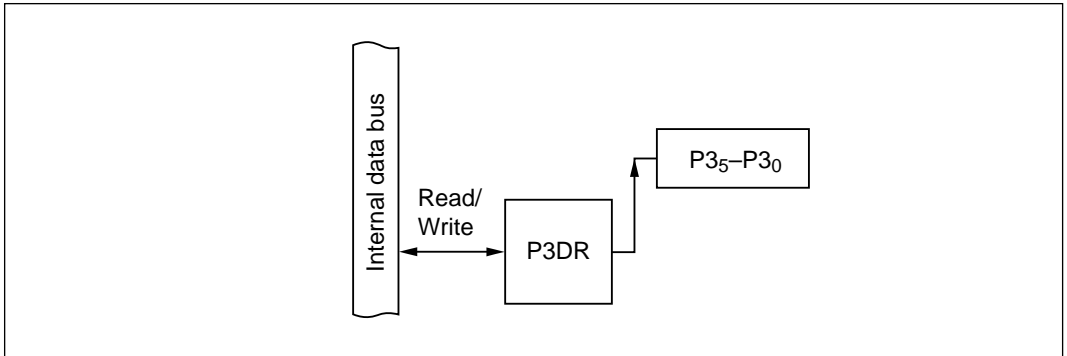

Figure 10-18 Output Port (Modes 1 to 7)
(2) Output Port (Modes 1 to 7): Figure 10-18 shows a block diagram illustrating the general-purpose output function. Table 10-13 indicates register read/write data. The value written in the port 3 data register (P3DR) is output at the pin. When read, P3DR returns the value written in P3DR.